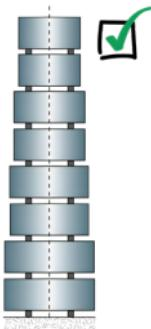

Figure 8a. Correctly aligned: smallest to largest diameter, top to bottom.
- The diameter and mass of the coil above should be equal to, or smaller than, the coil below (Figure 8a and b).